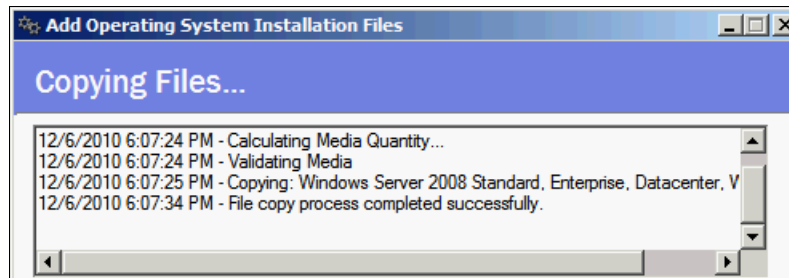

Figure 6-45 The copy process successfully completes
- When the copy process is finished, as shown in Figure 6-45, click **Finish**.